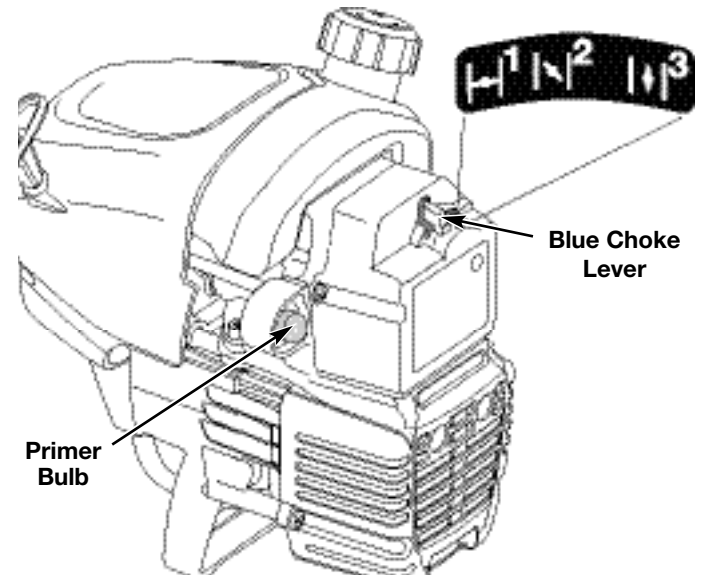

Fig. 7
2. Fully press and release the primer bulb 10 times, slowly. Some amount of fuel should be visible in the primer bulb and fuel lines (Fig. 7). If you can't see fuel in the bulb, press and release the bulb as many times as it takes before you can see fuel in it.
3. Place the blue choke lever in **Position 1** (Fig. 7).
5. Place the blue choke lever in **Position 2** (Fig. 7).
8. Once the engine is warmed up, place the blue choke lever in **Position 3** (Fig. 7). The unit is ready for use.
IF... the engine hesitates, return choke lever to **Position 2** (Fig. 7) and continue warm up.